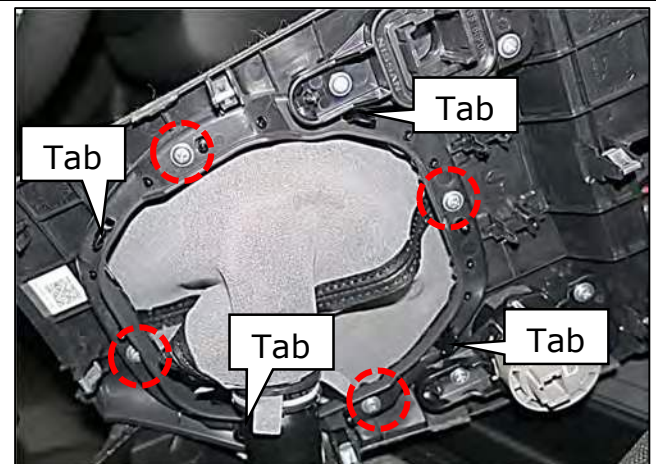
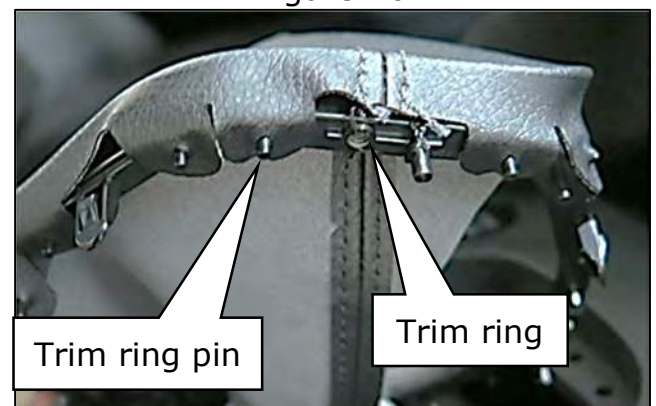

Figure 26
Figure 27
- b) Remove the (4) screws shown in Figure 26
- c) Carefully push upward on each of the (4) tabs
- g) Remove the shift boot trim ring from the shift boot by lifting the shifter boot off of each of the trim ring pins (Figure 27)